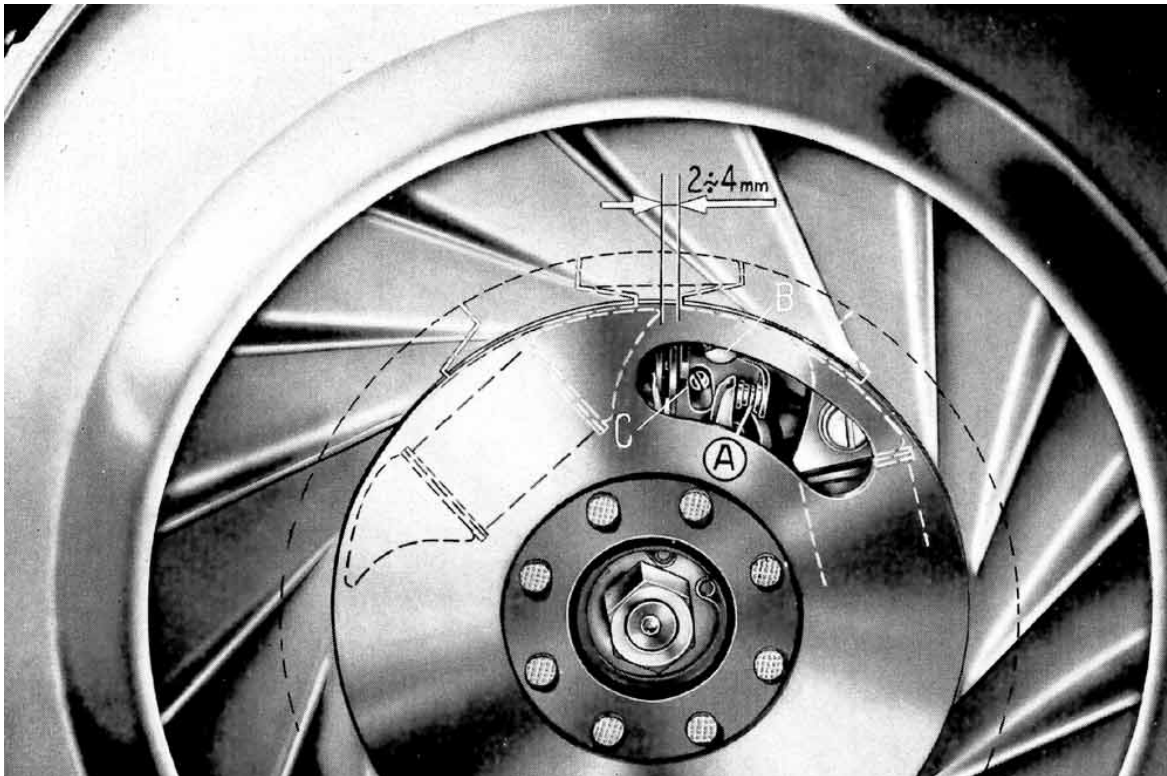

Fig. 15 - Operations for checking the <magnetic> timing of the flywheel
- 1) Selector in neutral, take off the rubber plug located on the rotor and rotate it by hand until the contact breaker unit (fig. 15) is seen through the hole of the flywheel rotor.
- 2) At the position indicate in the figure the contact breaker points (A) should start to open, i. e. when the extremity of the coil is at a distance of 2-4 mm. (0.078" - 0.15") from the respective pole shoe.
- 4) If the conditions as per points 2) and 3) are not obtained, rotate the screw (B) and rotate the cam (C) until foresaid conditions are obtained.
- 3) Clean, and if necessary, register the contact breaker points (fig. 15). To avoid a faulty ignition or some other defects, consult your Service-Station for this operation.